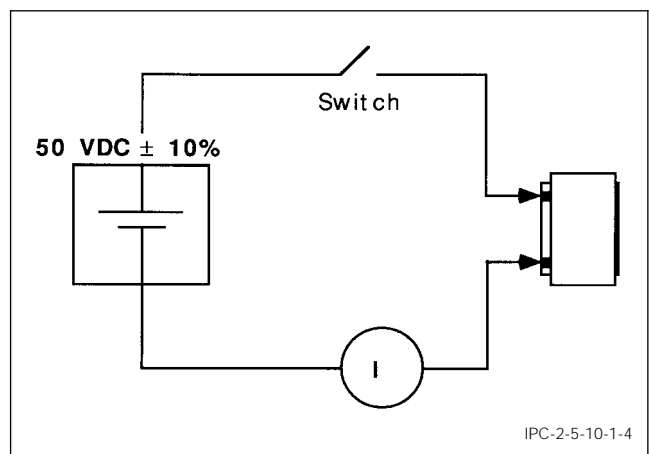

Figure 4 Schematic Diagram for Insulation Resistivity Measurement
5.1 Calculate the insulation resistivity (ρ_i) in Ohm-cm for each of three samples. Each sample must meet the specification requirement (see Figure 4).